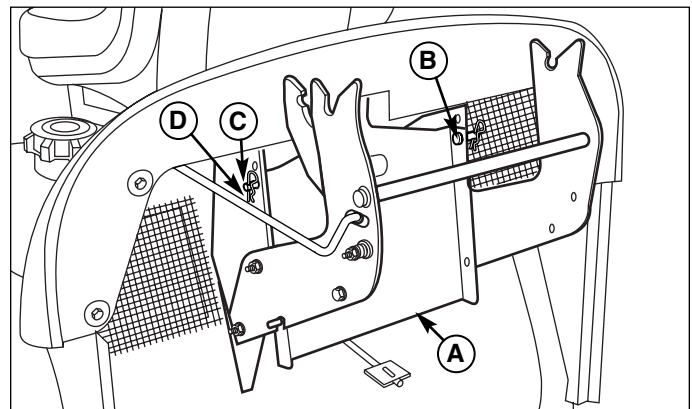

Figure 11. Install Support Plate
1. Install Deflector Guard Assy (A, Figure 11) using Clevis Pins (B), Washers (C), and Hair Pins (D) as shown.